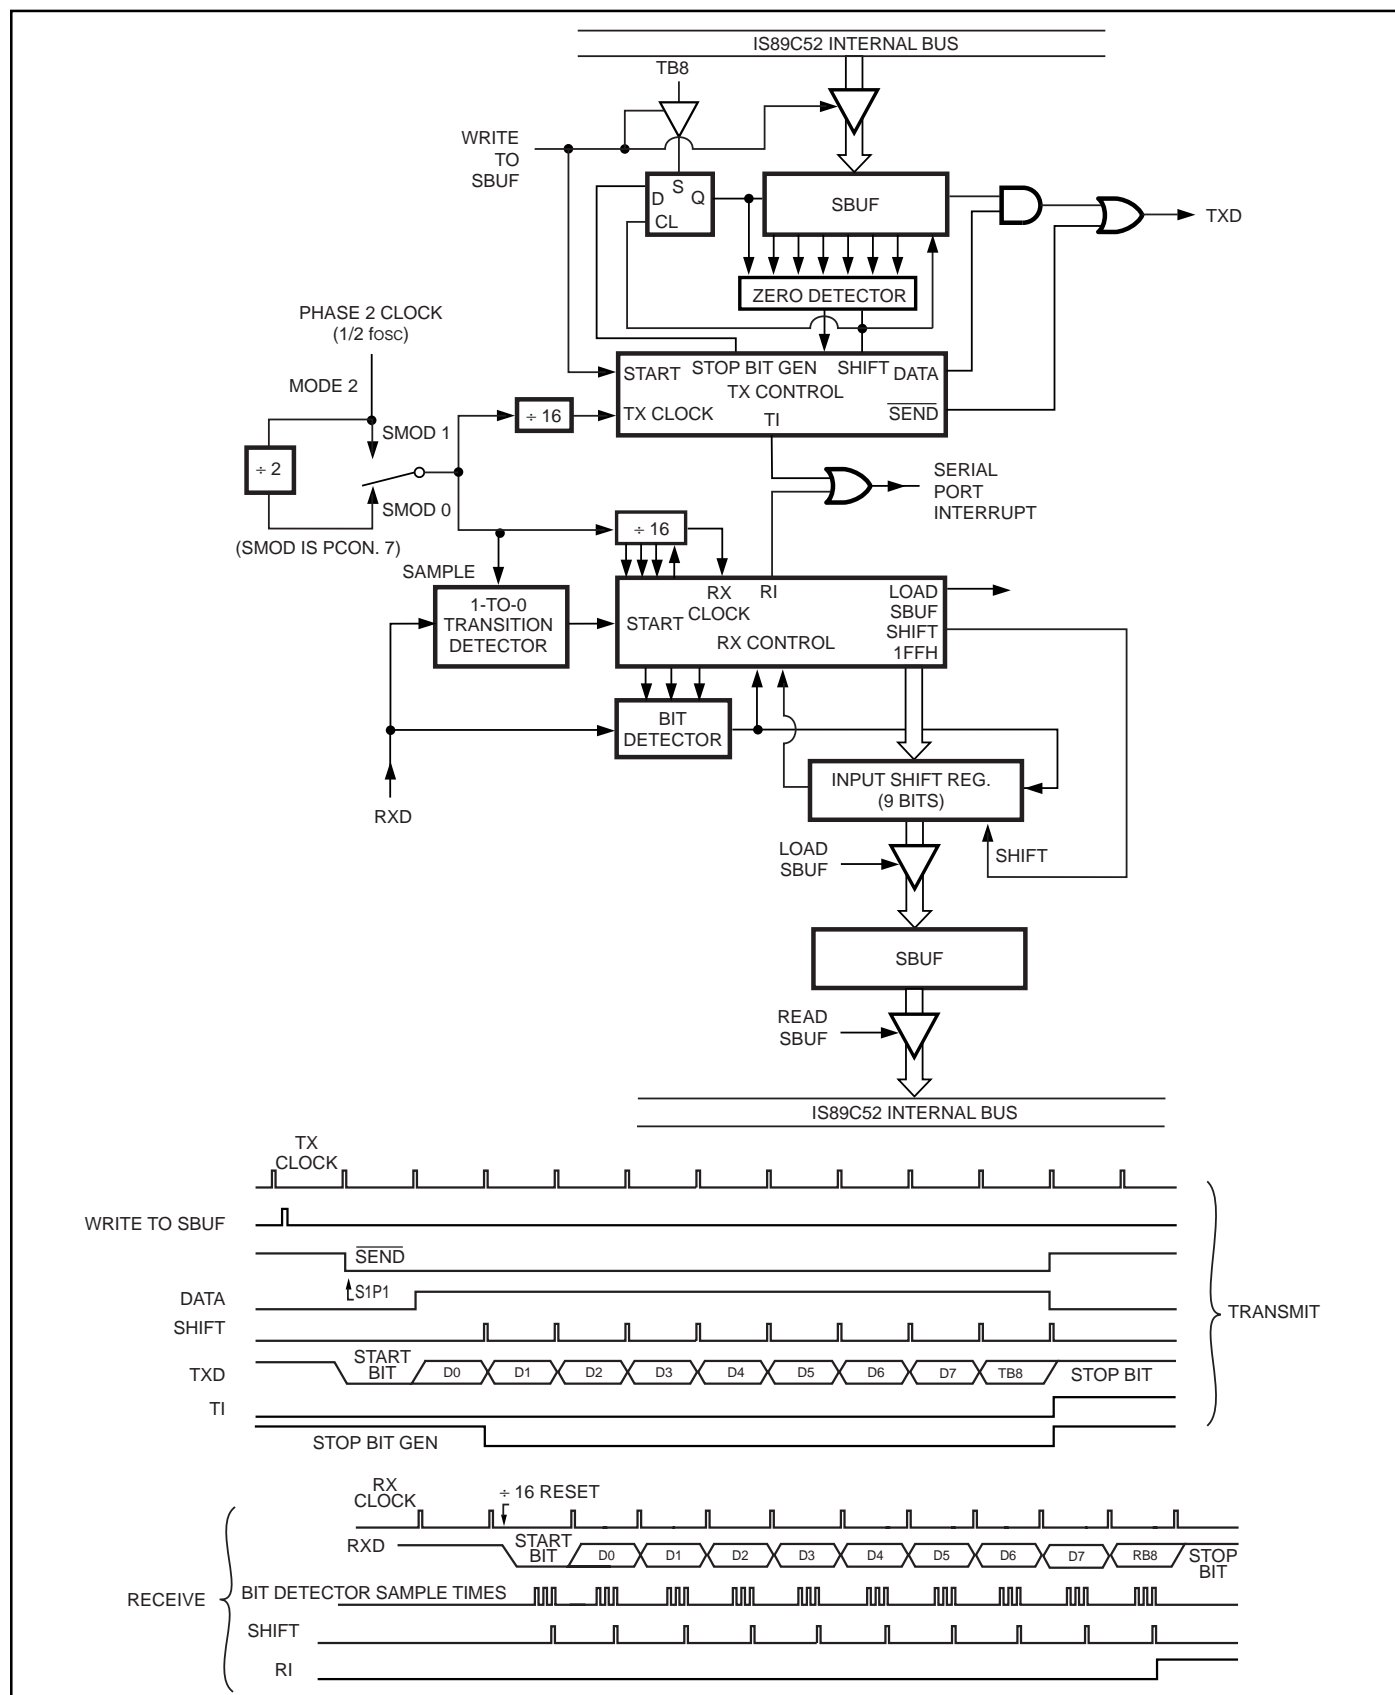

Figure 17. Serial Port Mode 2
Eleven bits are transmitted (through TXD) or received (through RXD): a start bit (0), eight data bits (LSB first), a programmable ninth data bit, and a stop bit (1). On transmit, the ninth data bit (TB8 in SCON) can be assigned the value of 0 or 1. Or, for example, the parity bit (P, in the PSW) can be moved into TB8. On receive, the ninth data bit goes into RB8 in Special Function Register SCON, while the stop bit is ignored. The baud rate is programmable to either 1/32 or 1/64 the oscillator frequency (see Figure 17).
Figures 17 and 18 show a functional diagram of the serial port in Modes 2 and 3. The receive portion is exactly the same as in Mode 1. The transmit portion differs from Mode 1 only in the ninth bit of the transmit shift register.